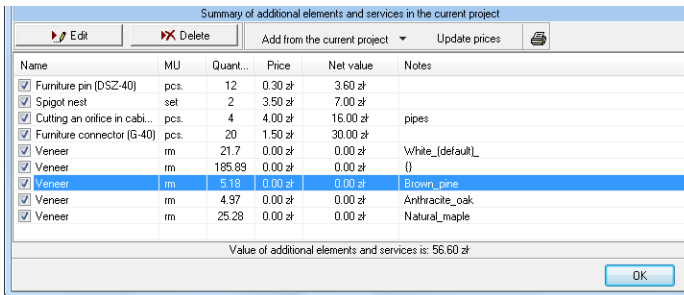

Fig. 68 – veneers added to the list of additional elements (visible only the bottom part of the window)
- 1) **'Calculate quantity of veneer edging in the project'** – this option counts the total length of veneer used in the project and defined for particular formats. Positions are differentiated based on the selected type of veneer. The results are given in running meters (Fig. 68 on the next page).